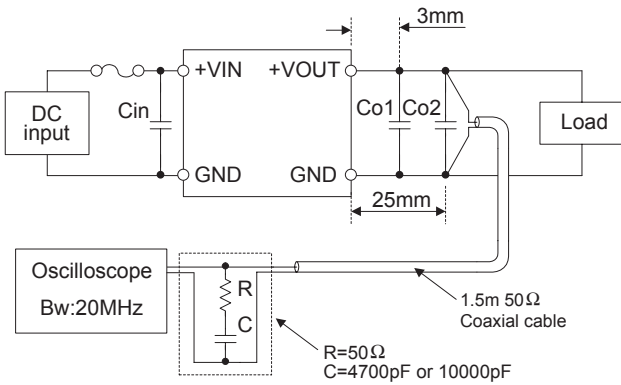

Fig.2.4 Measuring method of Ripple and Ripple Noise
■Ripple and Ripple Noise are measured, as shown in the Fig.2.4. Cin is shown in Table2.2, Co1 and Co2 is shown in Table 2.4.